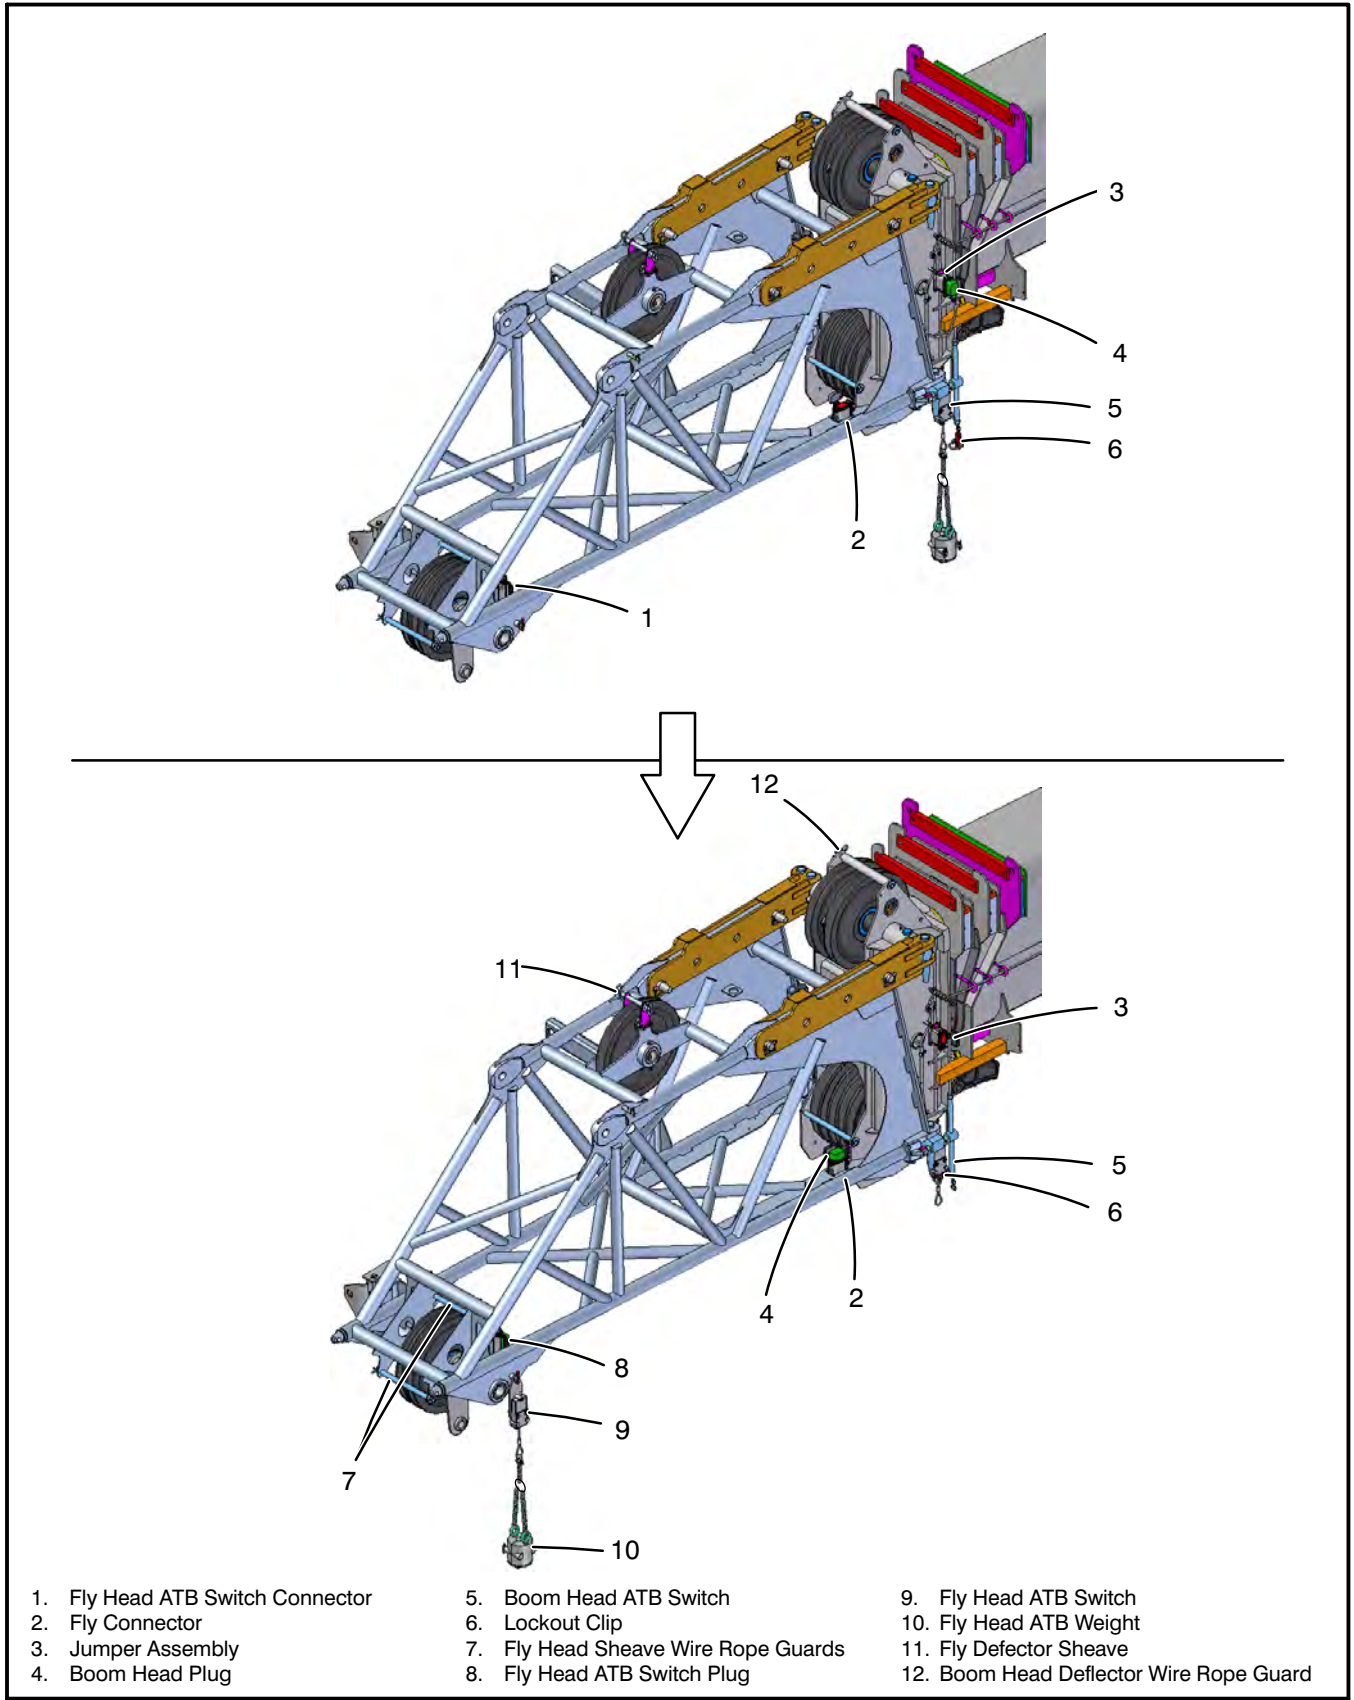

Figure 4–79
16. Remove the wire rope guards from the fly base and boom head deflector sheaves. Refer to Figure 4–79. Reeve the winch wire rope over the boom deflector sheave, then on the fly base deflector sheave.